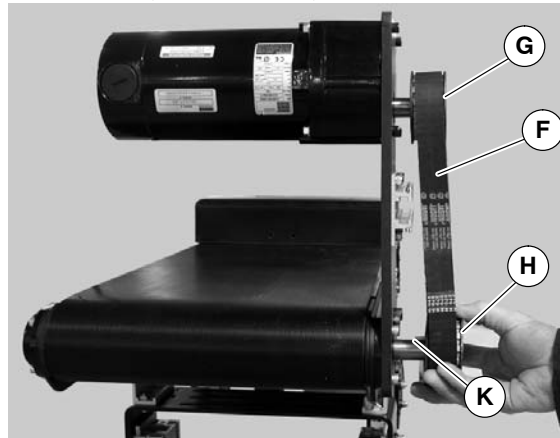

Figure 5
4. Install key (K of Figure 5).
NOTE: If drive pulley (G of Figure 5) is replaced, wrap timing belt around drive pulley and complete step 3.